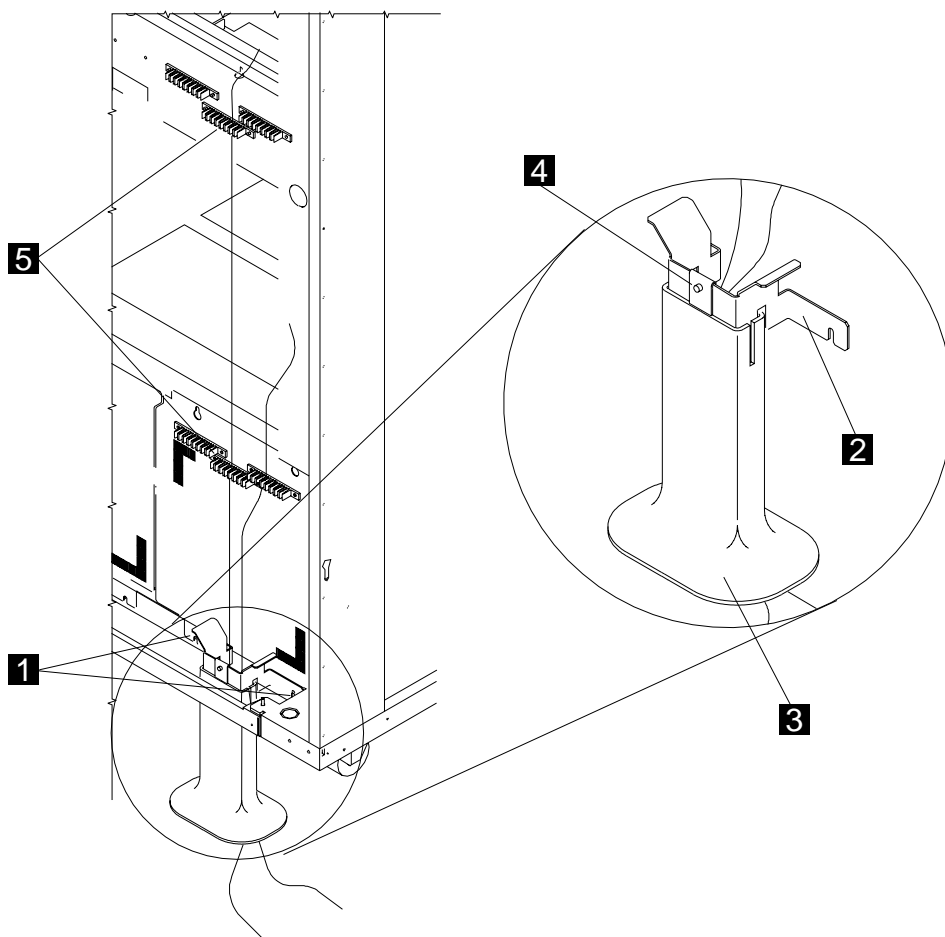

Figure 4-3. Routing the Optical Fibers
- If you have a bracket **2** with PN 76F9407 and the guide **3** with PN 69F2204 (see Figure 4-3) install as follows:
- Step b. \_\_\_ **Install** the bracket **2** (PN 76F9407), tighten the 2 screws **1**. See Figure 4-3
Step a. \_\_\_ **Route** the cables through the optical fiber guide if installed and insert the cables into the retaining strips **5**. (see Figure 4-3 on page 4-4 or Figure 4-3 on page 4-4)